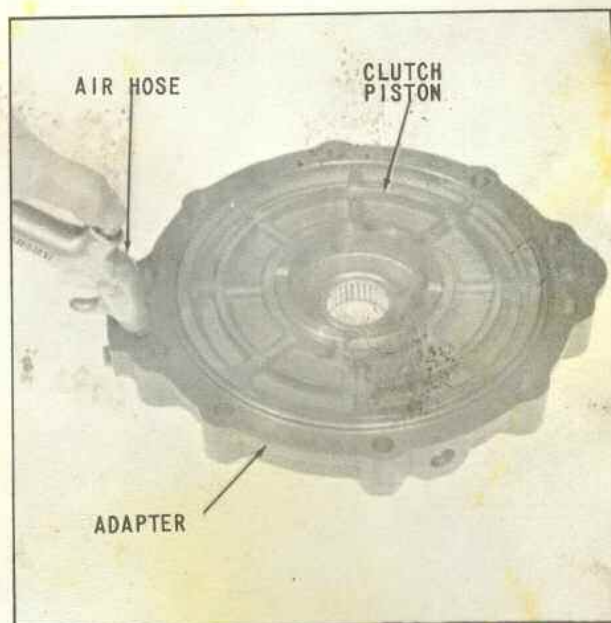

Fig. 19 Disassembling Reverse Clutch Piston in Adapter
12. Force compressed air into reverse clutch cavity while holding piston, as shown in (Fig. 19) and piston will pop up out of reverse clutch cavity.